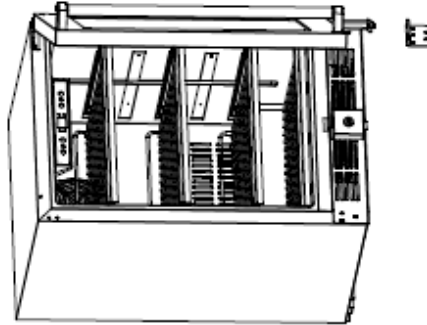

Figure 5 Lay the unit on its back
2. Carefully lay the refrigerator on its back (Figure 5).